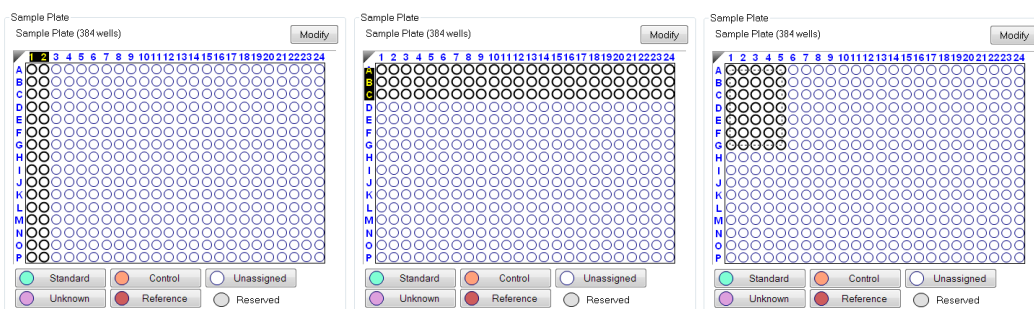

Figure 7-13: Selecting Wells in the Sample Plate Map
- Click a column header or select adjacent column headers by click-hold-drag (Figure 7-13, left). To select non-adjacent columns, hold the **Ctrl** key and click the column header.
- Click a row header or select adjacent row headers by click-hold-drag (Figure 7-13, center).
- Click a well or draw a box around a group of wells (Figure 7-13, right).